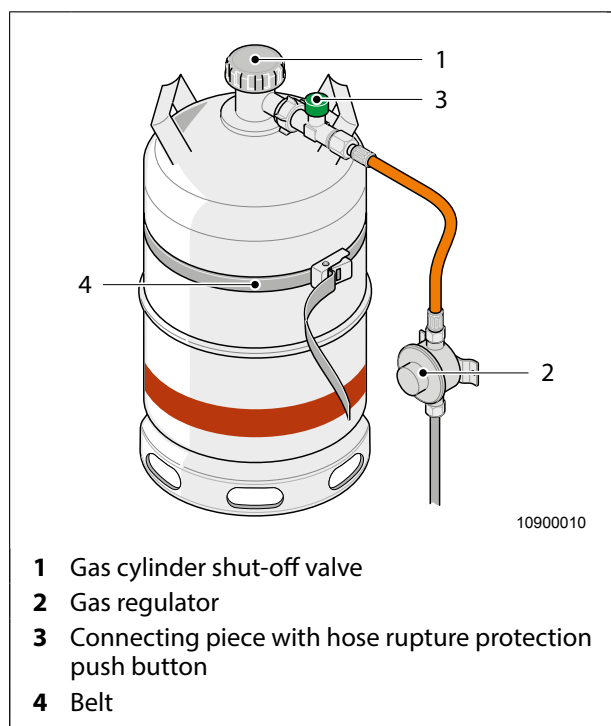

Fig. 46 Gas cylinder in gas locker
1. Close the gas cylinder shut-off valve (Fig. 46, item 1).
2. Unscrew the connecting piece with hose rupture protection push button (Fig. 46, item 3) from the gas cylinder by hand (caution: left-hand thread).
3. Detach the fastening strap (Fig. 46, item 4) and take the empty gas cylinder out of the gas locker.
6. Place the full gas cylinder in the mounting in the gas locker and secure it with the fastening strap (Fig. 46, item 4).
7. Screw on the connecting piece with hose rupture protection push button (Fig. 46, item 3) by hand (caution: left-hand thread).
8. Open the gas cylinder shut-off valve (Fig. 46, item 1).
9. Firmly press the hose rupture protection push button (Fig. 46, item 3).